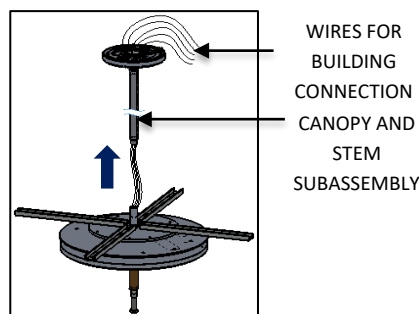

FIG. 15 – CANOPY AND STEM
5. Feed the WIRES through the CANOPY and STEM SUBASSEMBLY and pull it from the top to give connection to BUILDING SUPPLY as shown below in FIG. 15 and then assemble STEM ASSEMBLY to REFLECTOR SUBASSEMBLY.